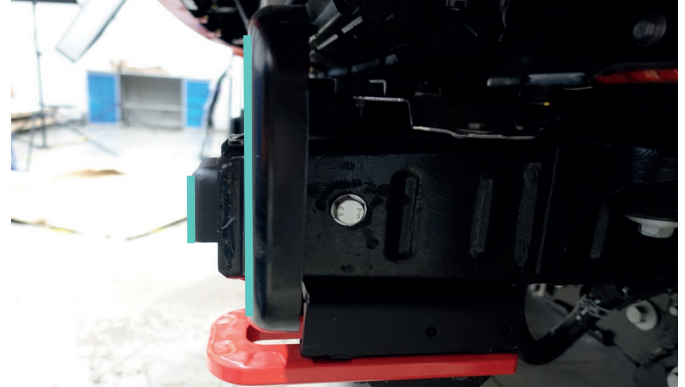

Fig.30
30. Align the additional bracket parallel to the frame flange (fig.30).